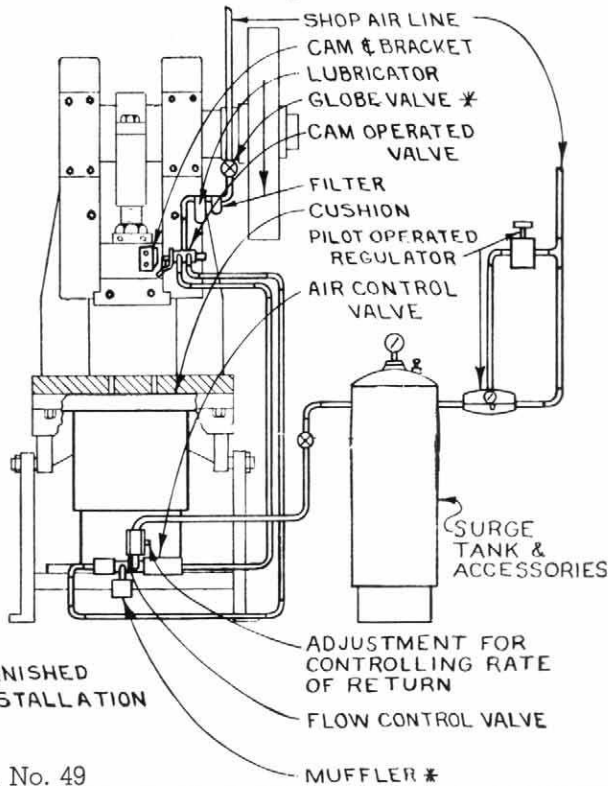

Fig. No. 49
All equipment necessary to operate cushion is furnished as indicated in Fig. No. 49. Installation comes complete with mounting structure to fit particular press.
- (3) Connect remote controlled regulator between surge tank and main air supply. **(Be sure shop air line is large enough to rapidly replenish air lost through exhausting.)**
- (4) Add pilot regulator to remote controlled regulator and shop air line. (See Fig. No. 49.)
- (5) Install cam-operated valve on press frame so that cam, which must be installed on ram or other moving press component, will engage roller lever of valve and actuate it when ram is at or near bottom of stroke. (See Fig. No. 49.)
- (6) Connect shop air line through filter and regulator to cam-operated valve inlet port.
- (7) Connect outlet port or ports of cam valve to small (1/4 NPT) cylinder port or ports of air-control valve.
- (8) After checking all connections and clearances, start press and actuate ram. Adjust cam valve and/or cam until cushion exhausts at or near bottom dead center.
- (9) Adjust flow-control valve until desired return rate is reached.